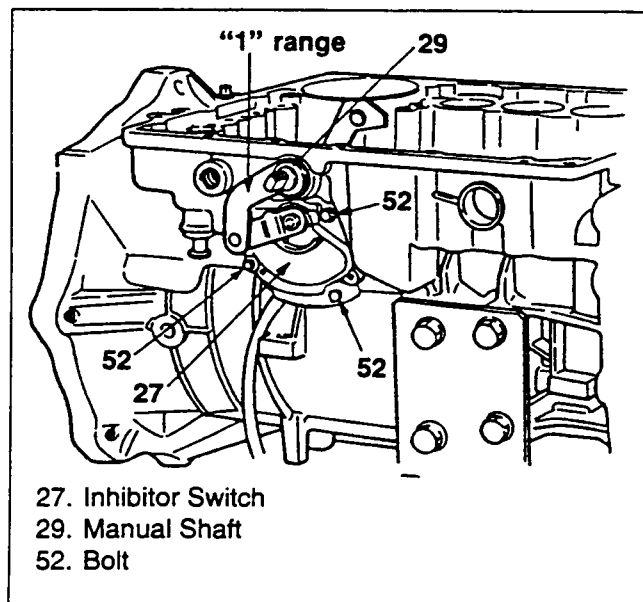

Figure 239. Inhibitor Switch Installation (1)
Inhibitor Switch (Figures 239, 240 and 241)
1. Set manual shaft to range "1" (figure 239).